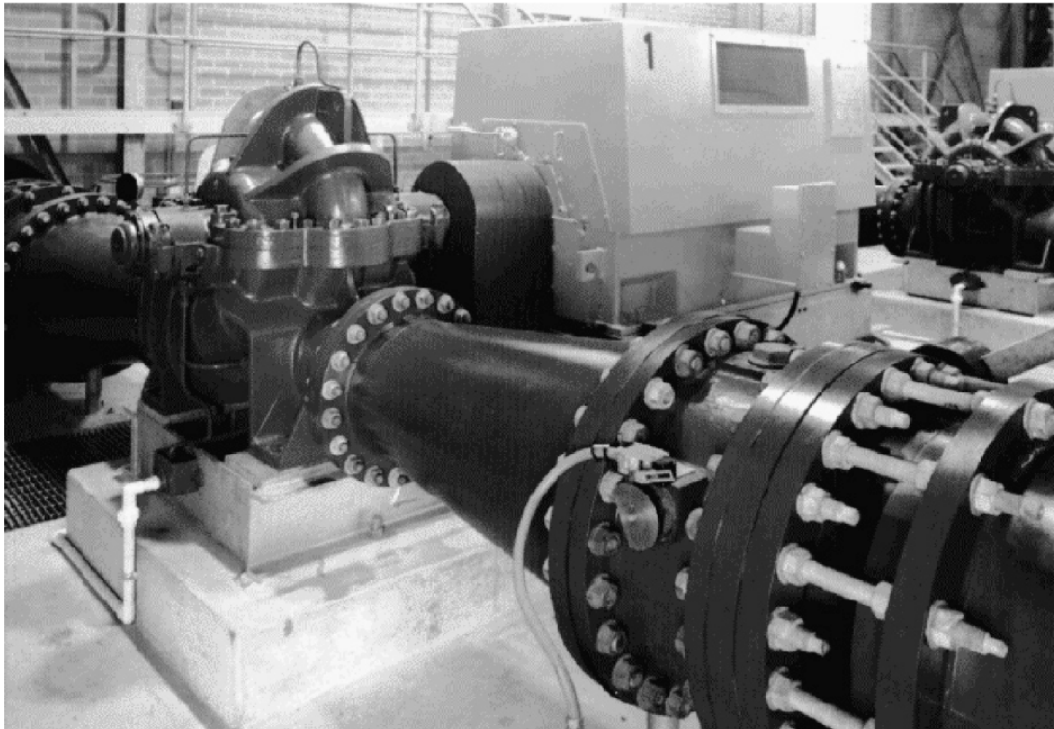

Figure 6.10 – Notice the Pressure Tapping on the Pump Discharge
- There should be a pressure tapping as close as possible to the pump outlet and before the isolation valve to measure the pump shut-off head (Figure 6.10).